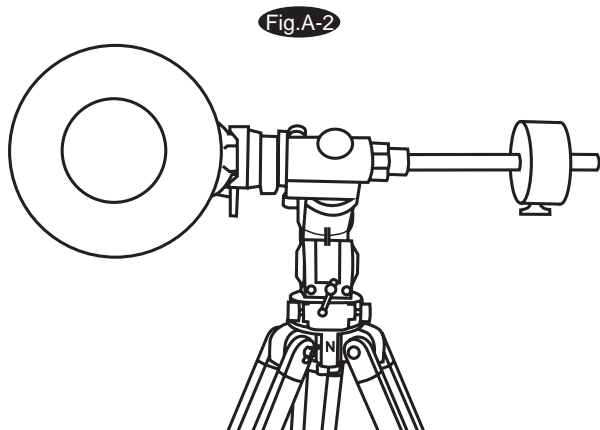

Fig.A-2
6. Loosen the R.A. lock knob and rotate the telescope around the R.A. axis until the counterweight shaft is parallel to the ground. (Fig.A-2)